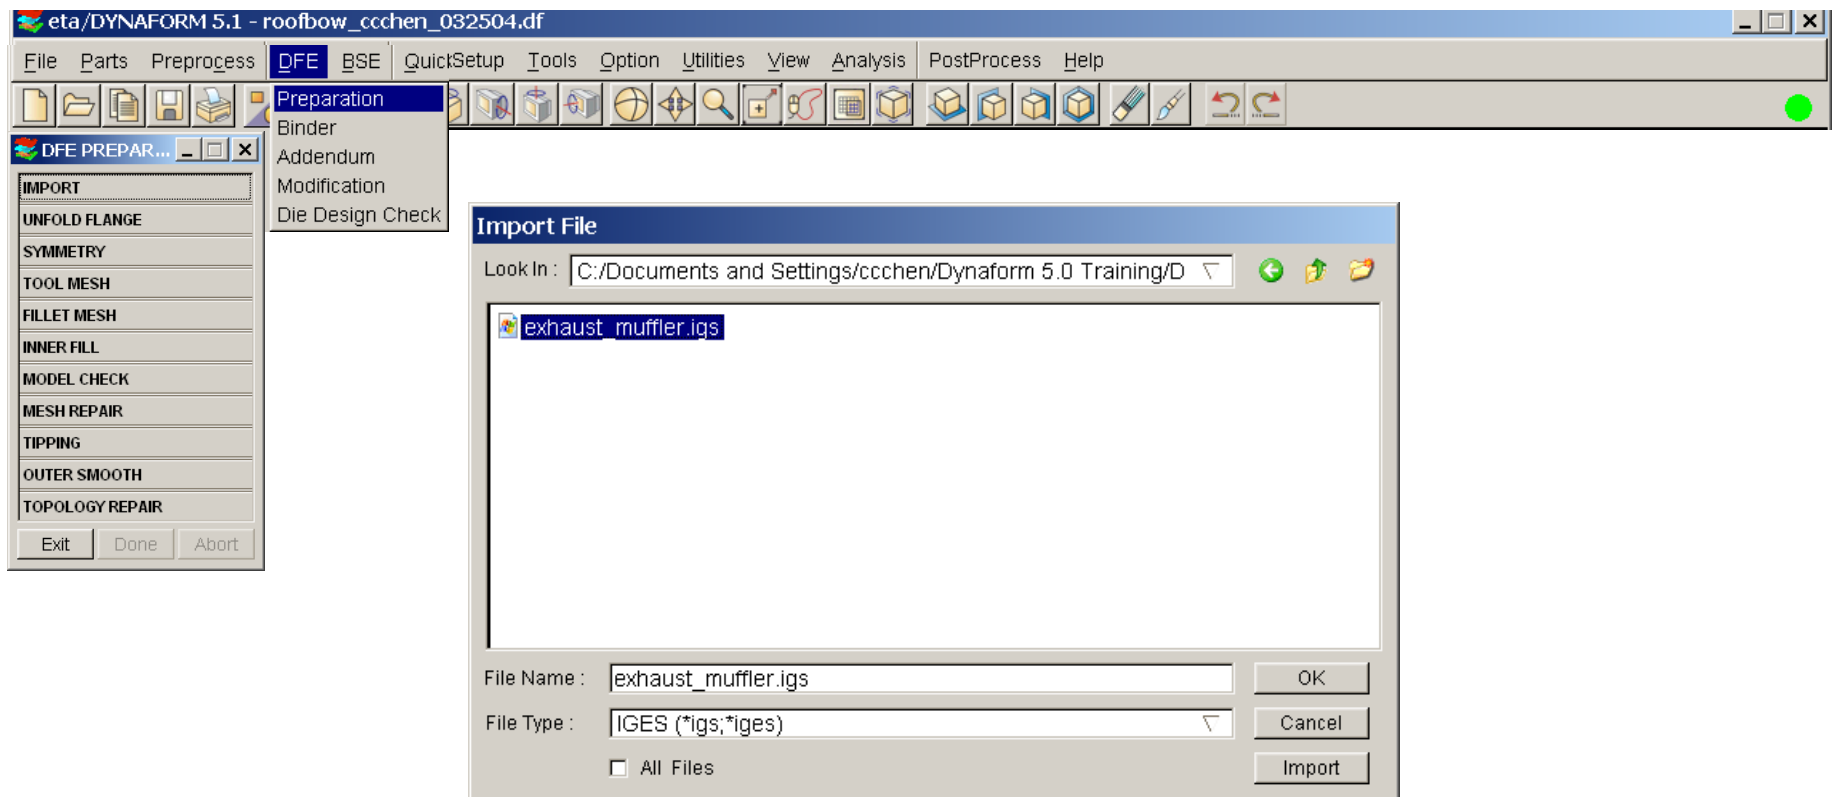

Figure 3.1
- a) Click on *DFE* (See Figure 3.1)